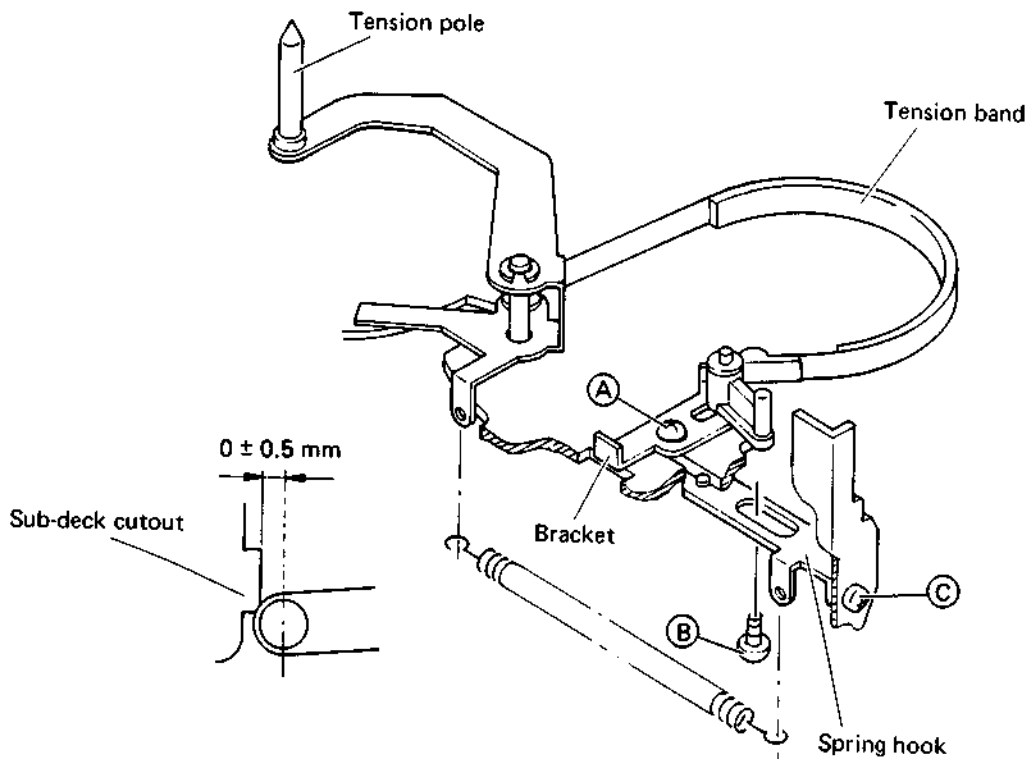

Fig. 5-25 Back tension mechanism
3. Check for the relationship shown in Fig. 5-25 between tension pole center and the sub-deck cutout. If necessary, loosen screw (A) and adjust the bracket position.
5. Check that back tension is 23 ± 5 g-cm. If necessary, loosen screw (B) (this requires removing the SERVO board) and turn screw (C) to adjust the spring hook position.